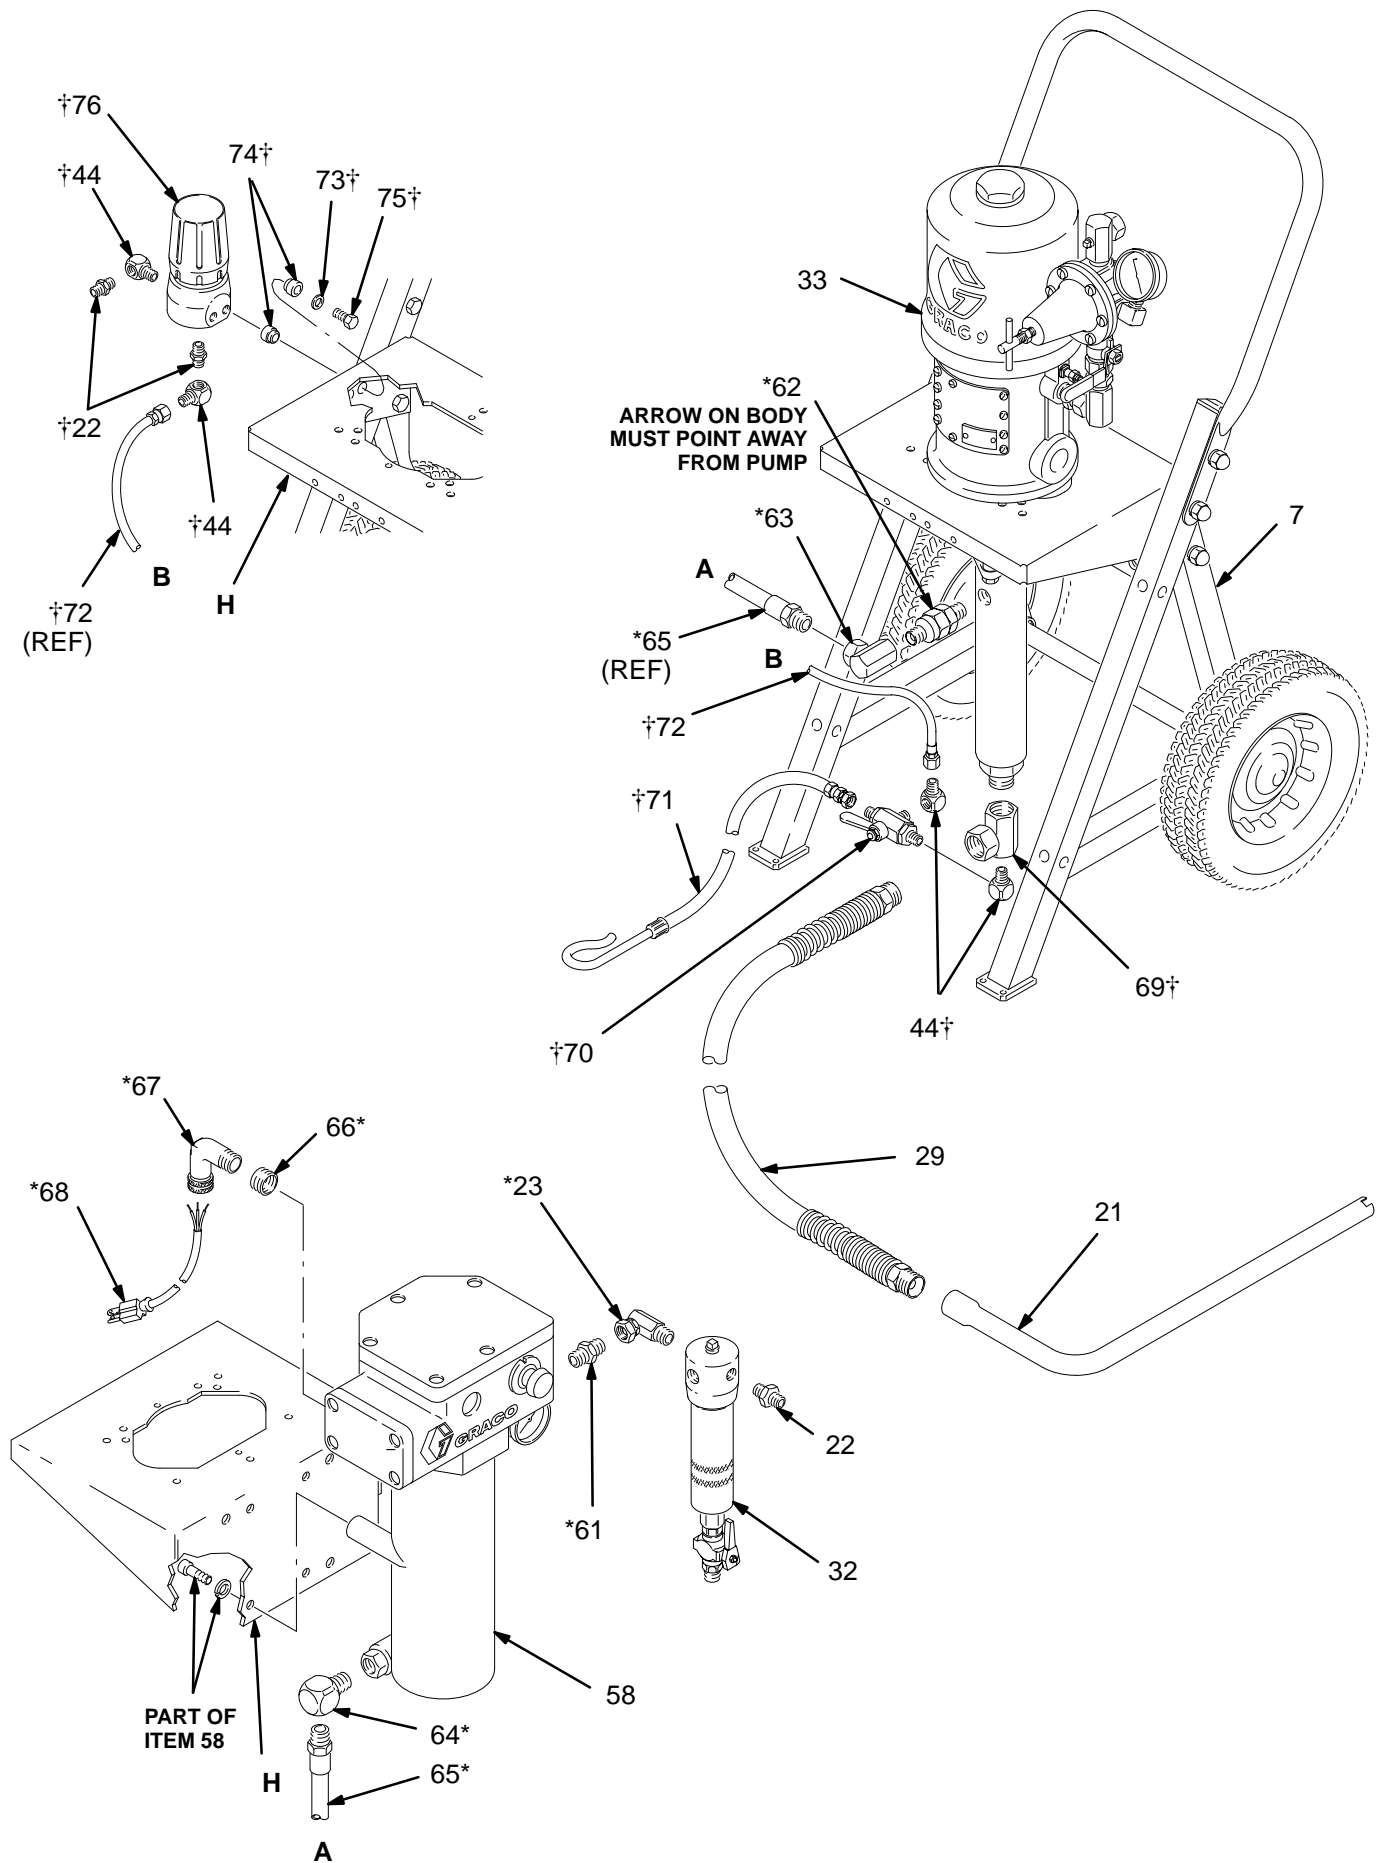

Fig. 4
3. Align the heater (58) mounting posts with the four holes at the back of the cart's pump support bracket (H). See Fig. 4. Secure the heater to the bracket with the M8 x 1.25 screws and lockwashers supplied with the heater.
5. Screw the check valve (62*) into the pump's fluid outlet, making certain that the arrow on the check valve points away from the pump. Screw the rigid end of the adapter (63*) onto the check valve. See Fig. 4.
6. Install the 3/8 npt nipple (61*) in the heater outlet. Screw the male end of the 90° swivel (23*) into the inlet of the fluid filter (32). Screw the female end of the swivel (23*) onto the nipple (61*) at the heater outlet, and tighten securely. When properly assembled, the filter's outlet nipple (22) will face toward the back of the cart.
2. Screw the rigid end of the manifold (69†) onto the pump intake, and attach the suction hose (29) to the swivel end of the manifold. See Fig. 4.